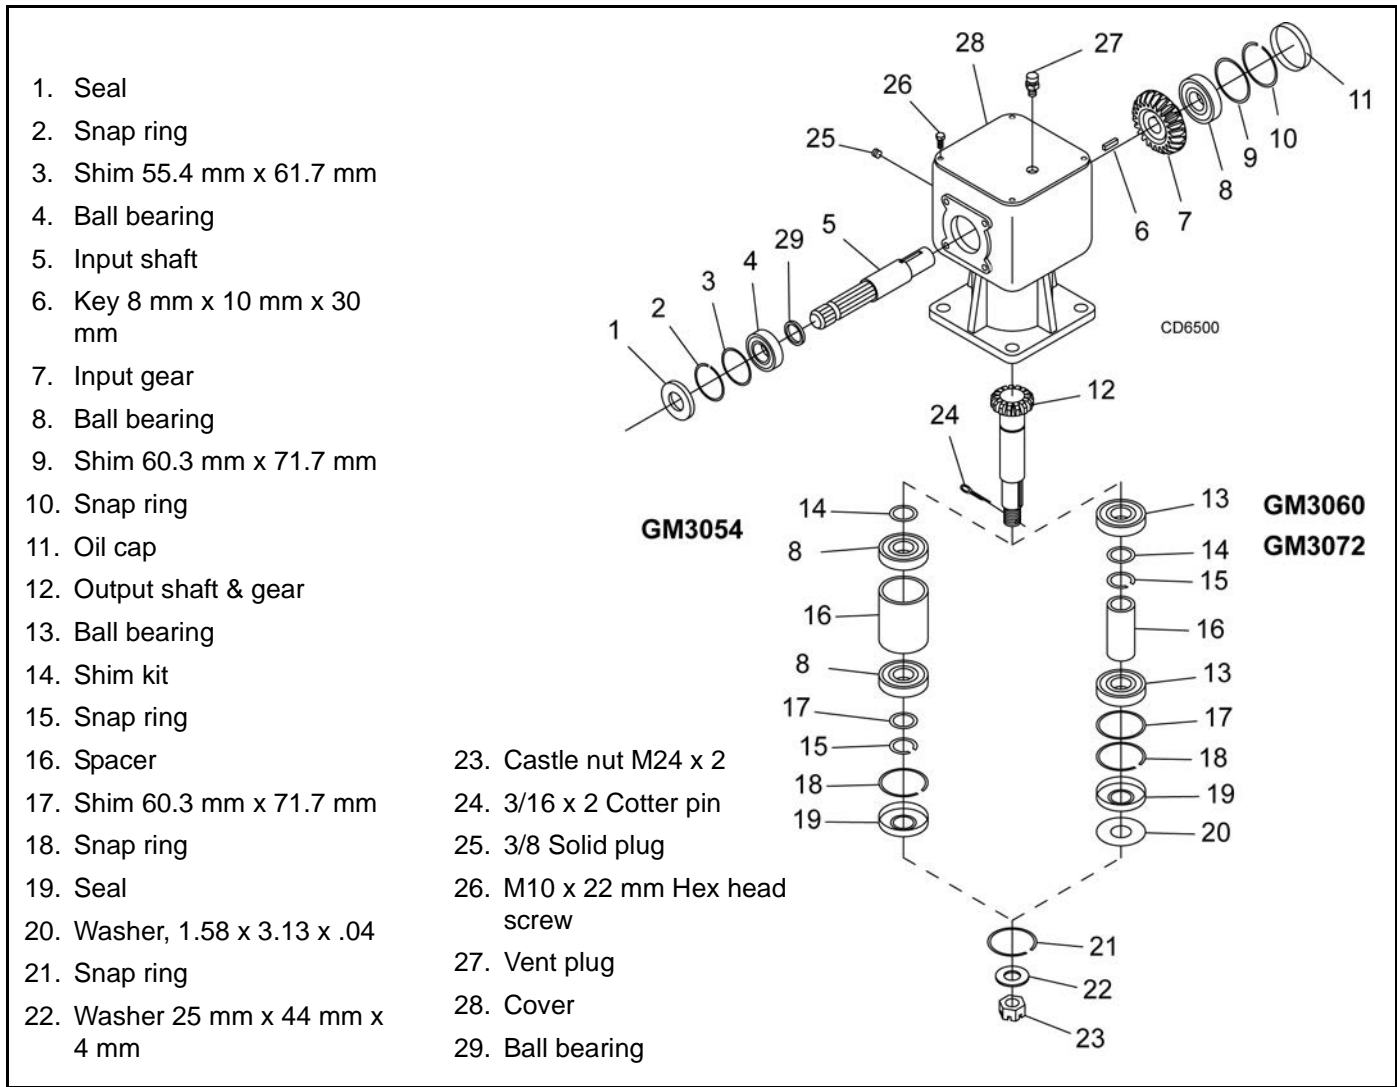

Figure 14. Gearbox Assembly
2. Remove vent plug (27), Figure 14, and siphon gear lube from housing through this opening.
3. If the leak occurred at either end of horizontal shaft, remove oil cap (11) and/or oil seal (1). Replace with new one (see Seal Replacement, page 21).
1. Remove top cover (28), Figure 14, from housing. Turn gearbox upside down and pour out remaining gear oil from gearbox.
2. Remove oil cap (11) (to be replaced).
3. Remove snap ring (10) and shim (9) from input shaft (5).
4. Support gearbox in hand press and push on input shaft (5) to remove bearing (8).
5. Remove gear (7) from inside housing.
6. Remove oil seal (1) from front of housing (to be replaced).
7. Remove snap ring (2) and shim (3) from front of housing.
8. Remove input bearing (4) by using a punch and hammer from outside of housing.
10. The castle nut (23) and cotter pin (24) are already removed with the drive sheave. Remove the snap ring (18), washer (20), and seal (19).
11. Remove output shaft (12) and bearings by using a punch and hammer and tap on top to drive down.
Refer to Figure 14.